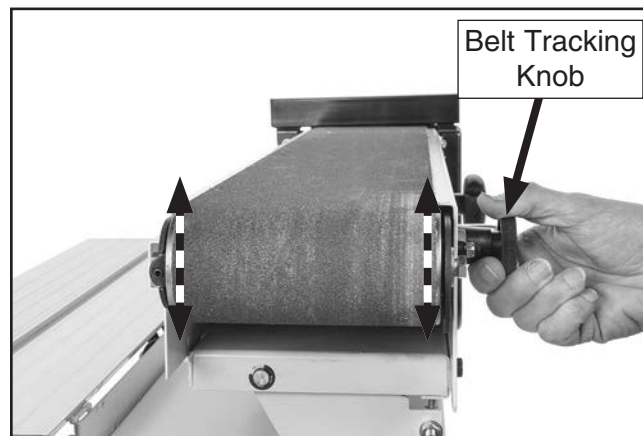

Figure 29. Adjusting belt tracking.
3. Turn machine **ON**, and carefully adjust tracking knob until belt remains centered across rollers, as shown in **Figure 29**.